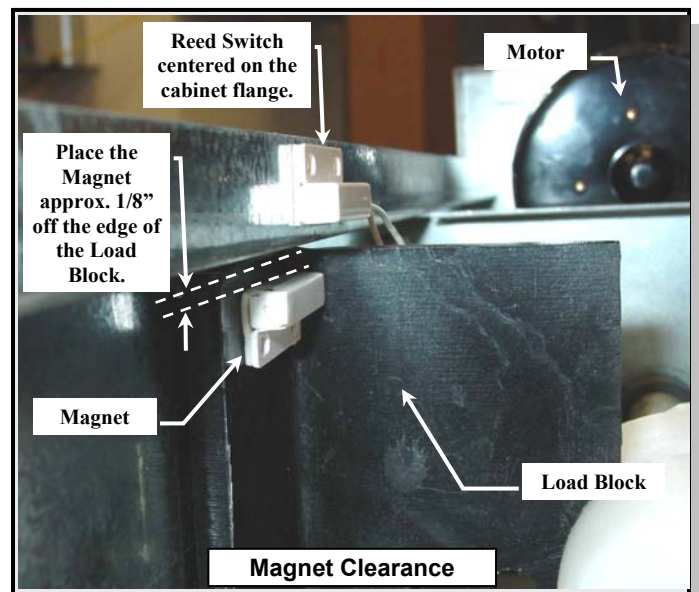

FIGURE 5
2. Allow 1/8" clearance from the edge of the load block and attach the magnet to the load block using the adhesive tape. The magnet should be located on the load block side facing away from the motor. **Refer to Figure 5.**